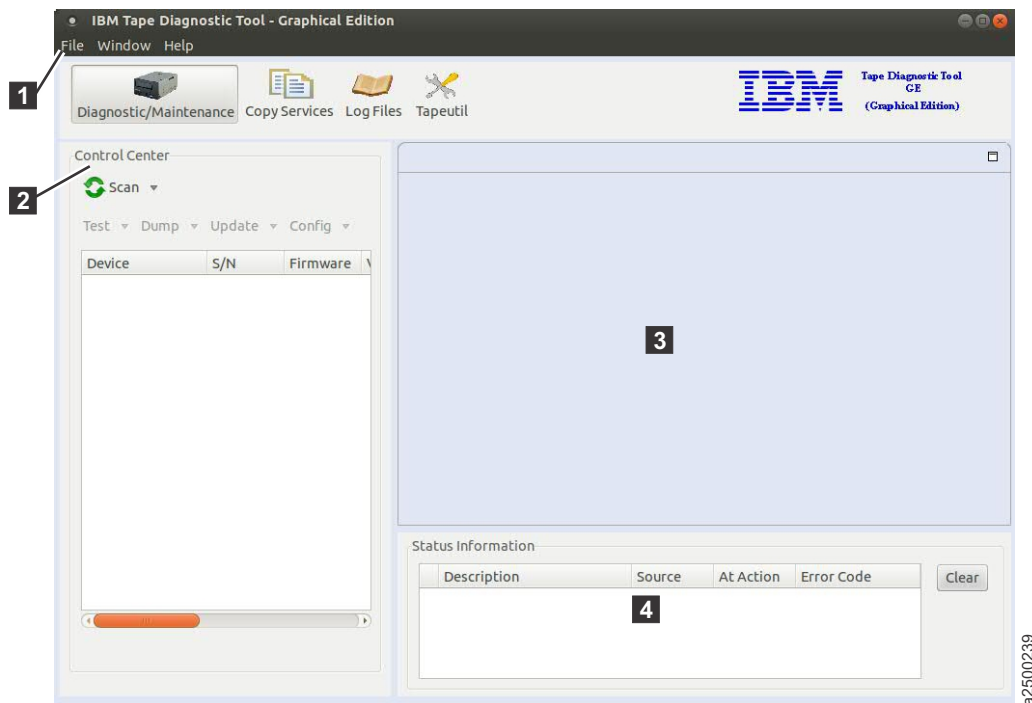

Figure 49. Graphical Edition interface
- Main menu ( **1** on Figure 49)- Located in upper left (File, Window, Help).
- Control Center ( **2** on Figure 49) - On left side (Device operations - Scan, Test, Dump, and Update)
- Test Lab ( **3** on Figure 49) - Located from center to right side (Contains running and previously run tests)
- Status Information ( **4** on Figure 49) - Located below the Test Lab (Contains summary results of tests)